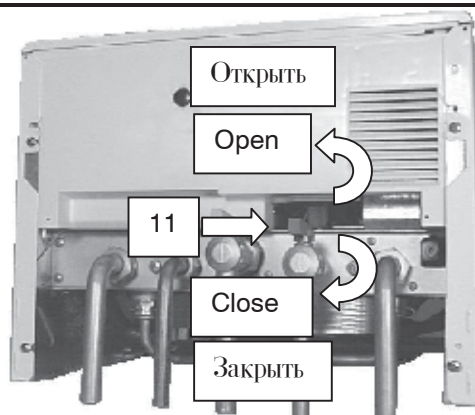
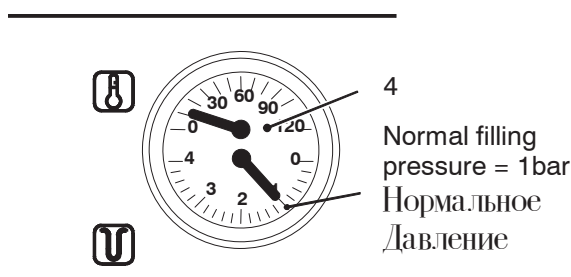

Fig. 2.1
Fig. 2.2
Ensure that the c.h. circuit is regularly filled with water (even if the boiler is only used for d.h.w. supply) checking that the pressure indicated on the temperature and pressure gauge 4 is not lower than that shown in Fig. 2.2.
If the pressure reading on the pressure gauge is below that shown in Fig. 2.2, then the system will require topping up. A filling loop is normally provided by the installer for this purpose.
1. Open the c.h. circuit filling valve 11 (Fig. 2.1) until the pressure reaches the normal filling pressure as shown in Fig. 2.2.
2. Откройте кран заполнения системы отопления 11 (рис.2.1) и закройте, когда давление достигнет значения, указанного на рис.2.2.